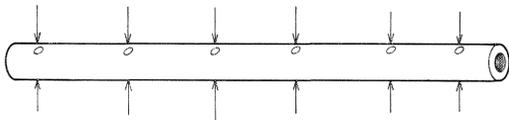

Figure 29
6. Using a micrometer, measure the wear points on the rocker shaft as indicated, Figure 29.